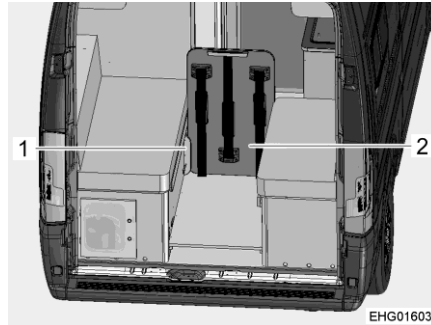

Fig. 41 Folding table, secured in mounting rails
- Insert the folding table (Fig. 41,2) into the mounting rails (Fig. 41,1). The mounting rails are attached to the benches. In this position, the folding table serves as a cargo area partition.